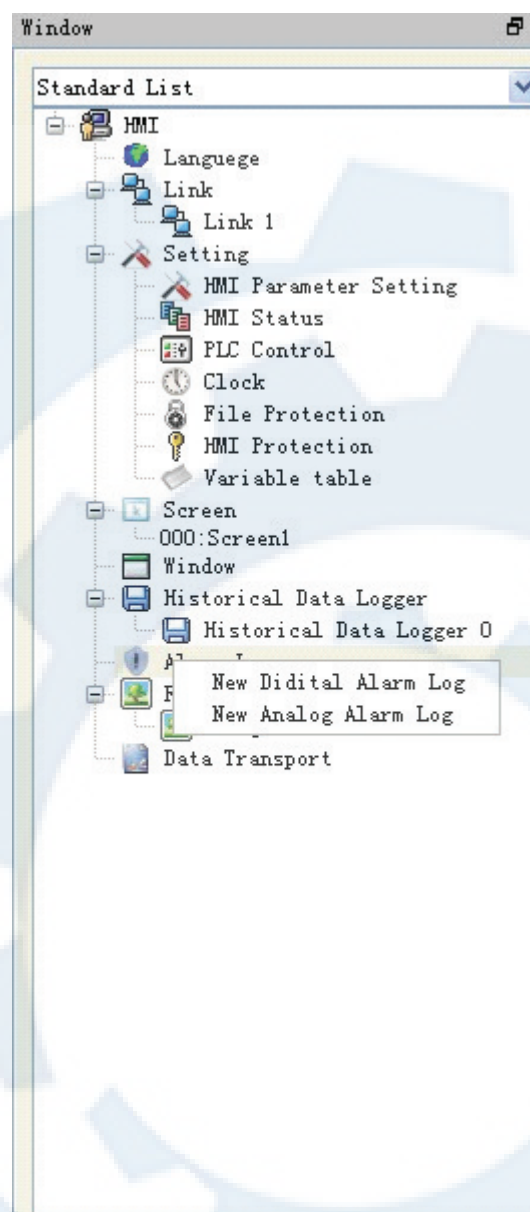

Figure 7-20 Select alarm log
- Select “Alarm Log” in project manager to set digital alarm and analog alarm, as shown in figure 7-20.